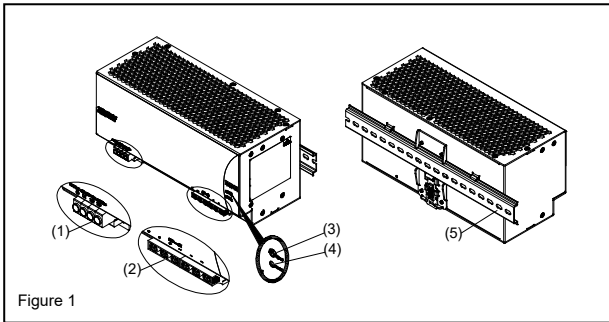
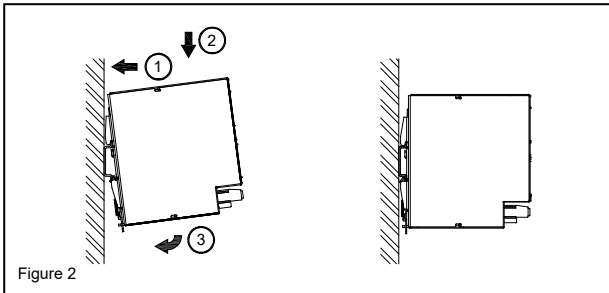
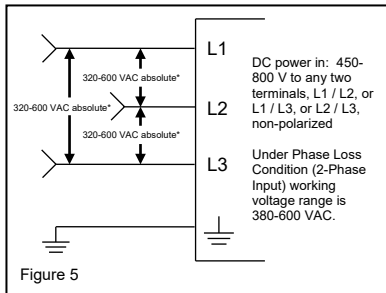

Figure 1
Figure 2
Figure 5
- Device description (Fig. 1)
- (1) Input terminal block connector
- (2) Output terminal block connector
- (3) DC voltage adjustment potentiometer
- (4) DC OK control LED (green)
- (5) Universal mounting rail system
- Mounting (Fig. 2)
Snap on the DIN rail as shown in Fig. 2:
- Input connection (Fig. 1, Fig. 5)
Use L1, L2, L3 and PE connections of input terminal connector to establish the 3 x 400-500 VAC connection. Fig. 5 shows the connection to the various network types (Recommend to use 4-core input cable for better EMI performance).
- Output connection (Fig. 1 (2))
Use the "+" and "-" screw connections to establish the 24Vdc connection. The output provides 24 VDC. The output voltage can be adjusted from 24 to 28 VDC on the potentiometer. The green LED DC OK displays correct function of the output (Fig. 1 (4)). The device has a short circuit and overload protection and an overvoltage protection limited to 35 VDC.